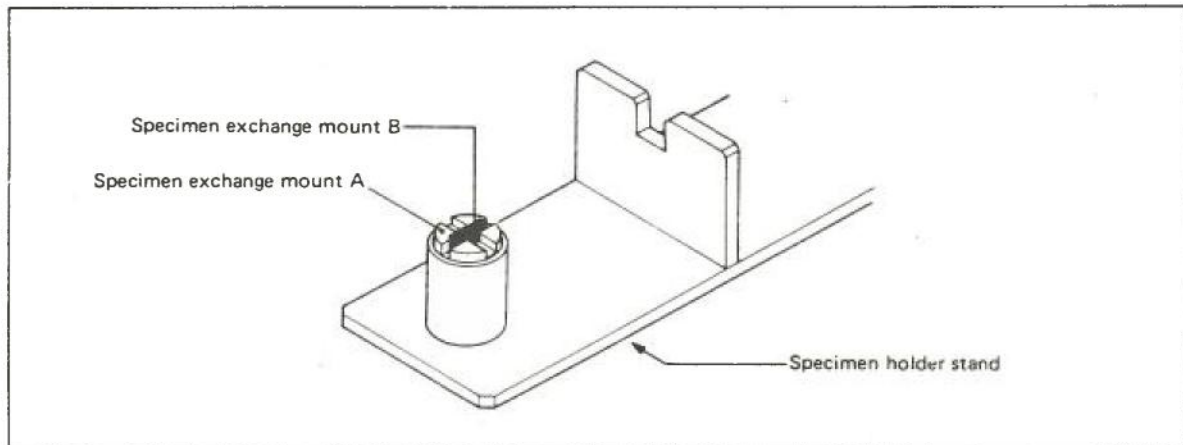

Fig. 4.2 Mounting the specimen exchange mounts
2. Place specimen exchange mount A in the specimen holder stand so that mount B is oriented as shown in Fig. 4.2.